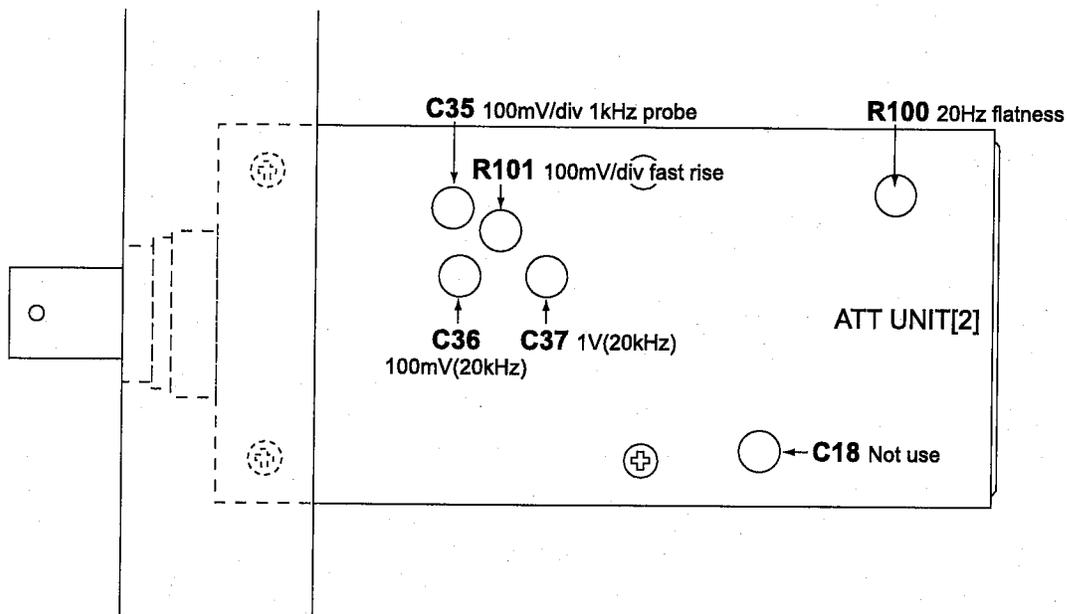

Figure 2.7 ANA MAIN BOARD II (CH1/CH2 ATT UNIT)
- Figure 2.7 ANA MAIN BOARD II (CH1/CH2 ATT UNIT) : See page 2-22